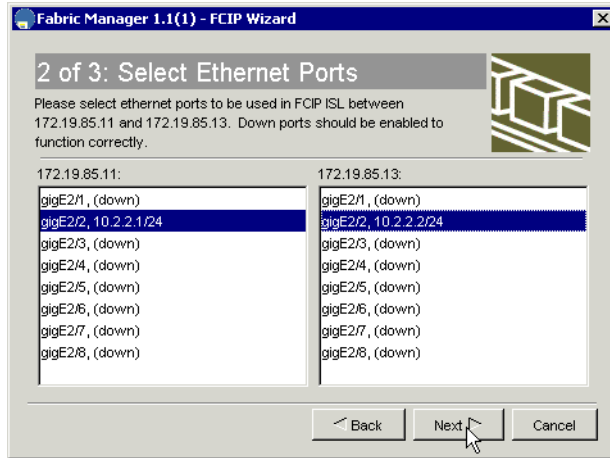

Figure 2-124 FCIP tunnel wizard 2
2. Enter the IP addresses of the switches in each end of the IP link and click **Next**. You see the second window of the wizard, as shown in Figure 2-124.